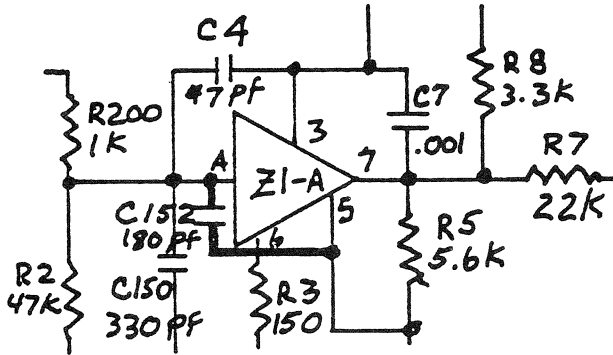

Figure 3-27. R.F. INTERFERENCE
7. R.F. INTERFERENCE (Figure 3-27).